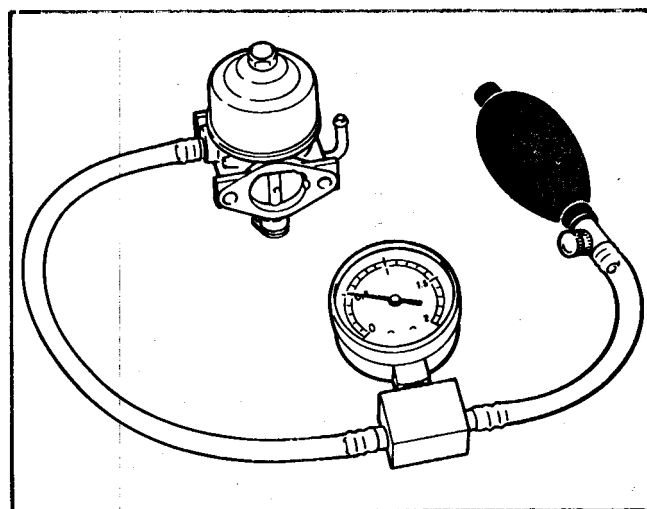

Figure 18
3. If it is suspected that the seat is leaking, the carburetor can be pressure tested after it has been cleaned. Use Toro Pressure tester, Number 41-7910. If the seat is good, it will hold .5kg/cm² (7 psi) for at least 10 seconds. This procedure should be completed with the carburetor turned upside down so the seat holds the needle closed. See Figure 18. If the pressure leaks down, replace the needle and try the test again. If the carburetor fails again, the seat is bad and the carburetor must be replaced.